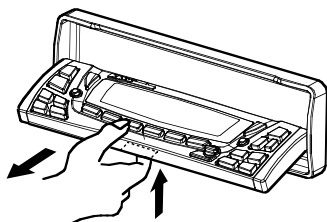

Figure 6 Press release latch on on the lower surface of the front edge of the panel and pull the panel until it is free of the head unit.
2. Press the panel release latch on the front edge of the lower surface of faceplate, and at the same time pull the panel forward to disengage it from the main unit. **(Figure 6).**